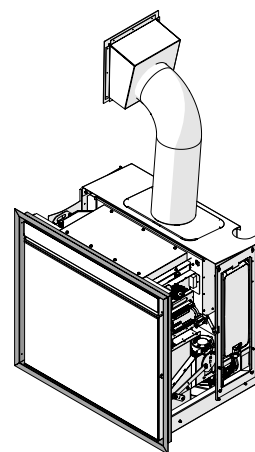

Fig. 43
- Finishing frames for plasterboard (**Fig. 43**).